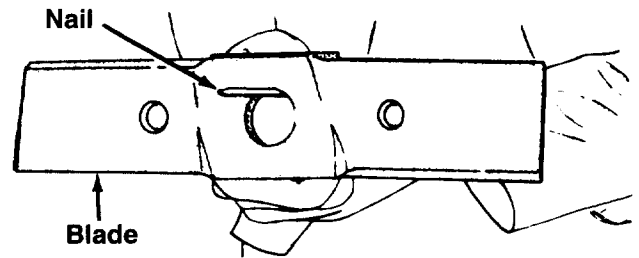

FIGURE 16.
- The blade can be tested for balance by balancing it on a round shaft screwdriver or nail. Remove metal from the heavy side until it is balanced evenly. See figure 16.